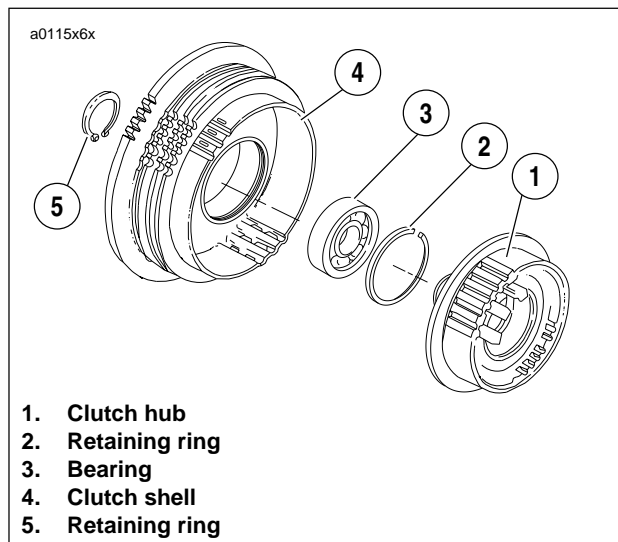

Figure 6-20. Clutch Hub and Shell Assembly
- c. See Figure 6-20. Place a wrench on the clutch spring forcing screw flats to prevent the forcing screw from turning.
1. See Figure 6-20. Assemble clutch hub and shell if necessary.